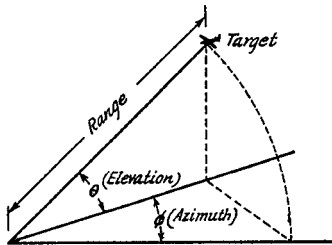

Fig. 1 — To establish the location of the target in space, three quantities must be determined: distance (range), bearing (azimuth), and altitude (elevation).
Military radar systems must be capable of (1) searching an assigned area, which may range from the relatively small frontal-fire arc of a night-fighter interceptor pursuit to the entire expanse of horizon surrounding a warship or a long-range bomber, and (2) supplying data for the accurate (and, preferably, automatic) determination of the quantities necessary to give an exact “fix” on enemy air or seacraft: (a) direction or bearing (azimuth); (b) altitude (elevation), and (c) distance (range), as shown in Fig. 1.
The third item of information required to establish the exact location of a target, as shown in Fig. 1, is the distance to the object. Here radar displays another unique quality — its ability to measure the distance to any object in the field of its beam, like a searchlight with a coupled range-finder, without triangulation.